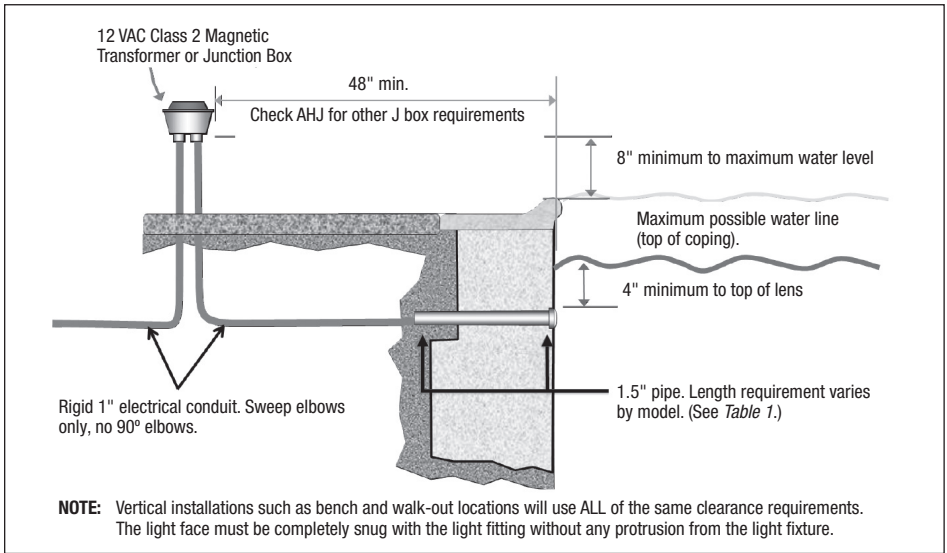

Figure 1. Jandy LED Light Installation with Standard 1.5" Plastic Fitting
NOTE: The electrician must complete preparatory steps before light fixture is installed. See *Figure 1*.
1. The junction box or the low-voltage magnetic transformer must be located at least eight (8) inches (measured from the inside of the bottom of the junction box or transformer) above the MAXIMUM water level, OR at least four (4) inches above the ground level or pool deck, whichever is greater. The junction box or 12VAC magnetic transformer must also be installed at least forty-eight (48) inches (4 ft.) from the edge of the pool, or per the junction box and/or transformer manufacturer's instructions. See *Figure 1*.
3. A standard 1.5" plastic wall / return fitting (not included) must be installed so that the top edge of the underwater light's lens is at least 4 inches (10.2 cm) below the surface of the water in the pool. See *Figure 1*.